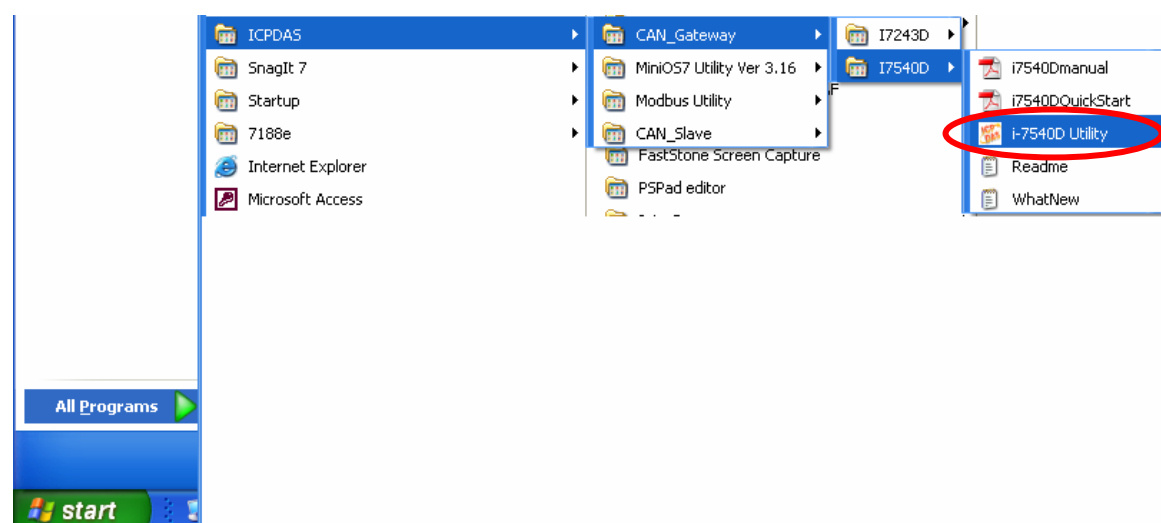

Figure 3-6: You can find “i-7540D Utility” at the “Start” in the task bar
Step 7: After finishing the installation of the i-7540D Utility, users can find it as shown in figure 3-6.